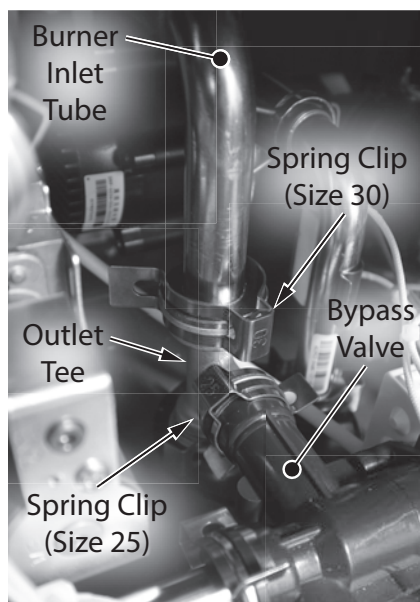

Figure 246 - Remove two spring clips from outlet tee
- 13** Locate the outlet tee connected to the bypass valve and burner inlet tube as shown in Figure 246 on the following page. Remove the large spring clip (size 30) securing the outlet tee to the burner inlet tube. Remove the small spring clip (size 25) securing the outlet tee to the bypass valve. Place spring clips aside in a safe place for reinstallation. **DO NOT** remove spring clip securing outlet tee to cartridge manifold.